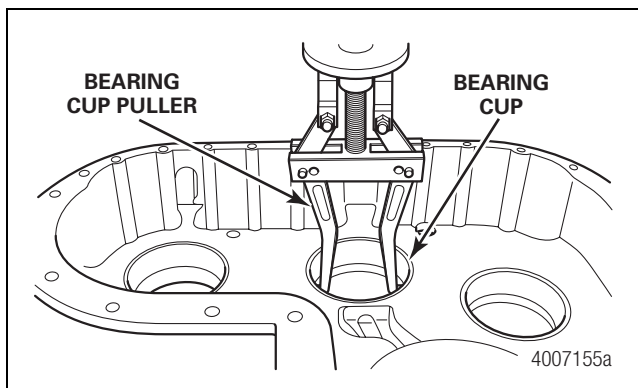

Figure 4.28
2. Use a suitable puller to remove the bearing cups from the transfer case half. Figure 4.28.